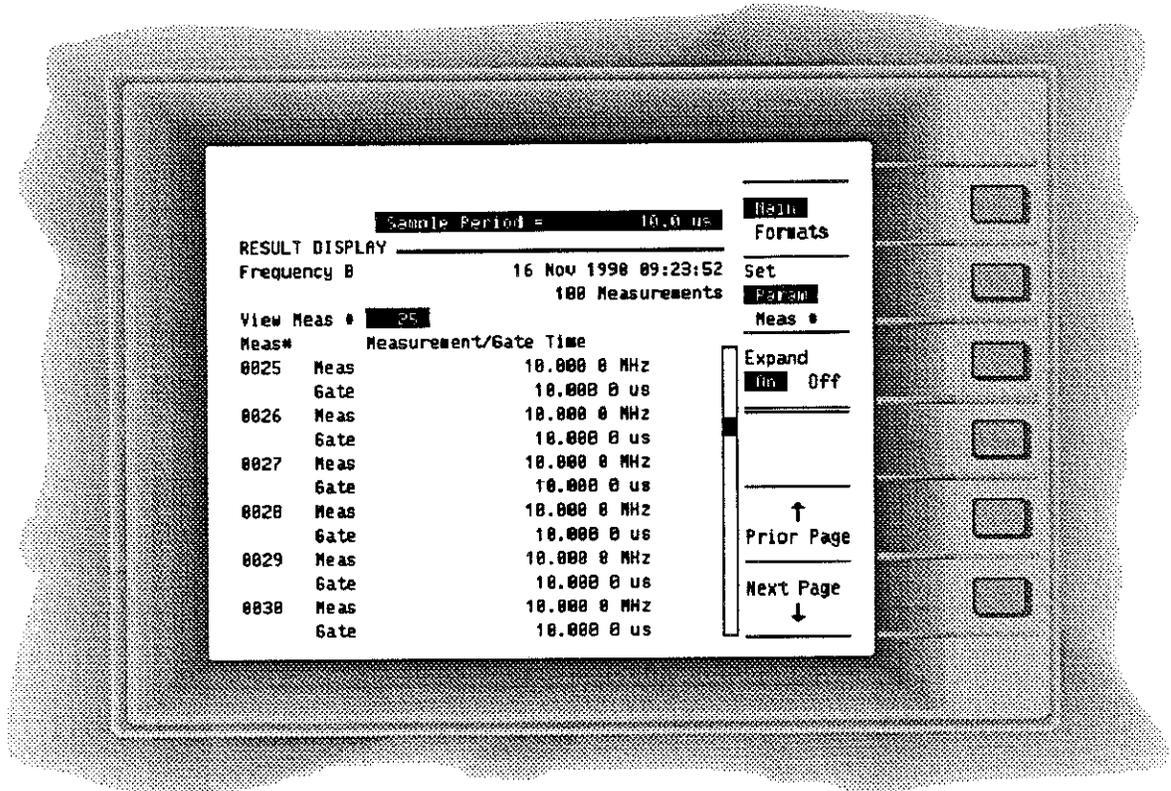

Figure 2-16. Gate Data Display
- The elapsed time for each measurement is displayed after each measurement result as shown in *Figure 2-16*.